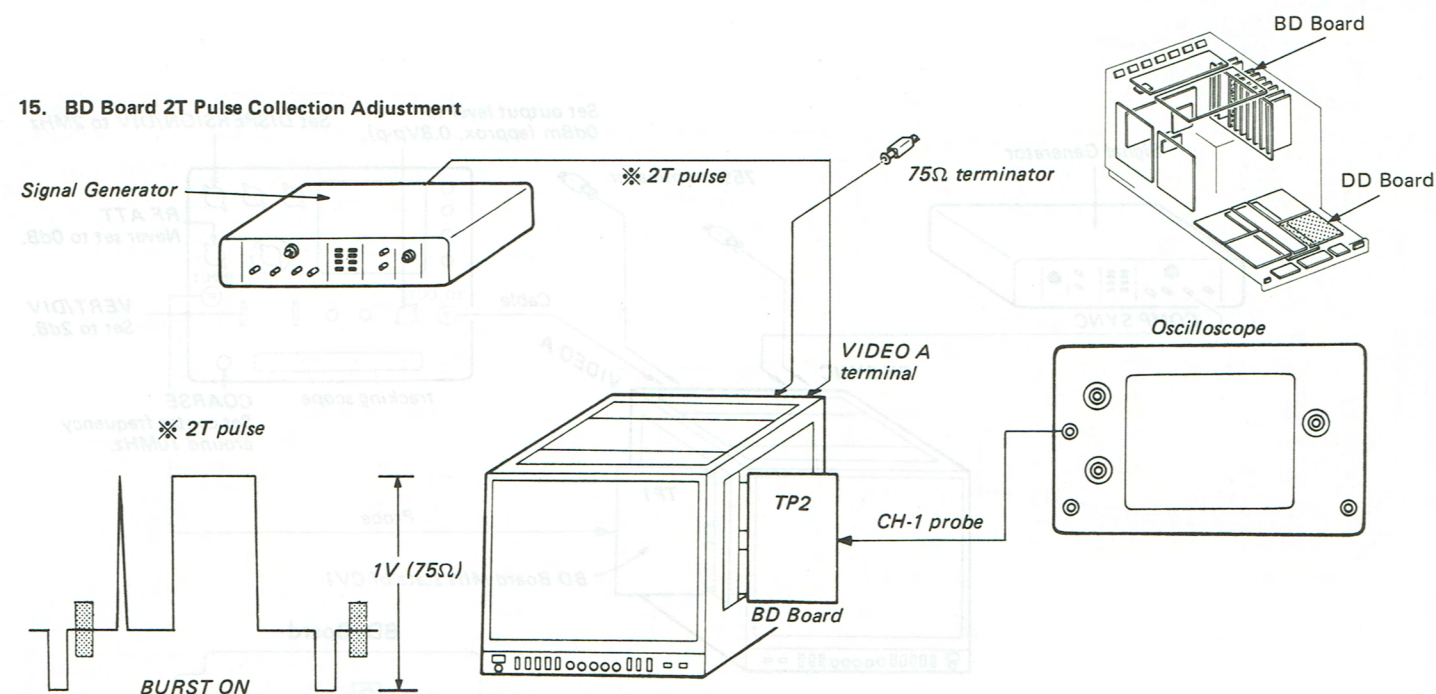

Fig. 15-1.
1. Complete the connections as shown in Fig. 15-1.
1. Connect as shown in Fig. 15-1.
3. Connect as shown in Fig. 15-1.